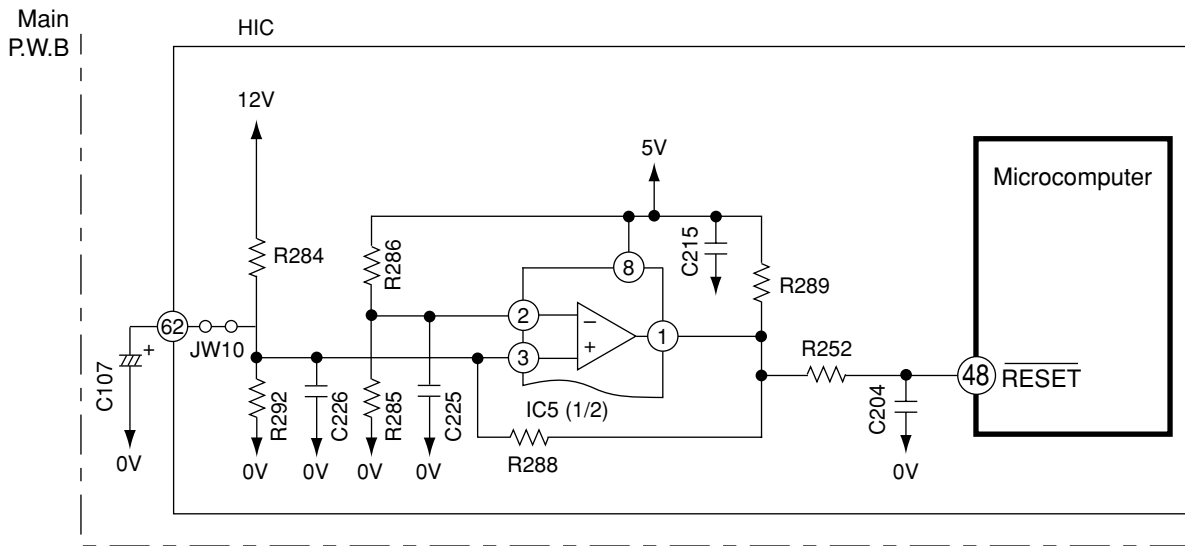
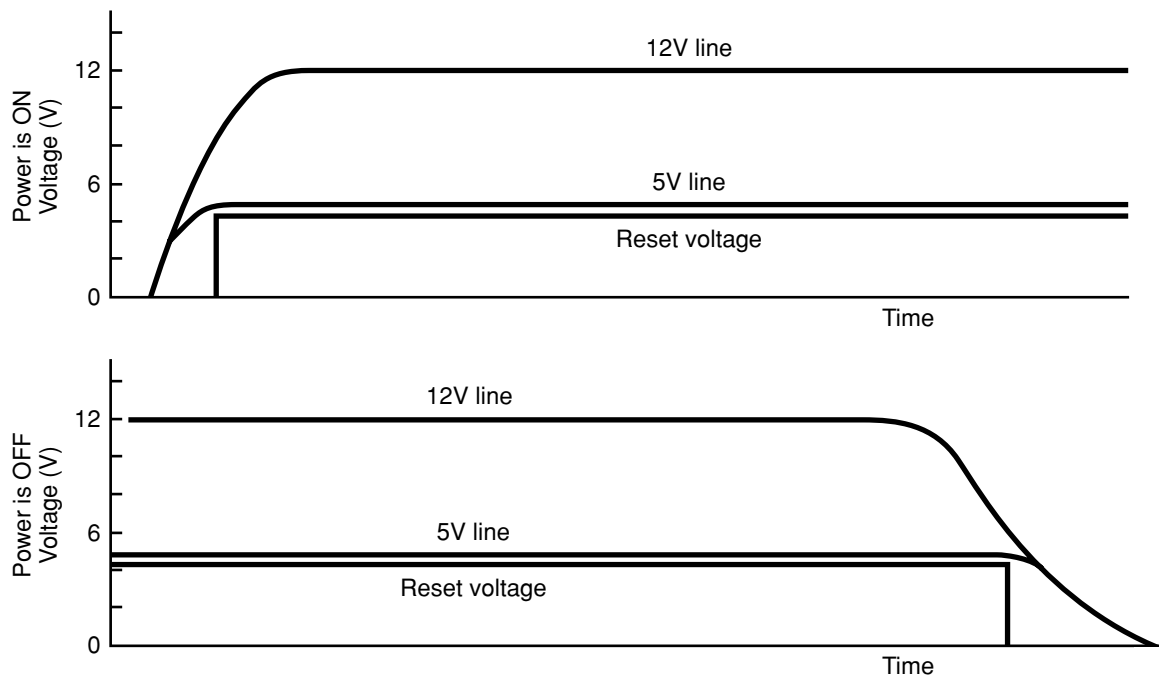

Fig. 10-1
Fig. 10-2
- Low voltage at pin (48) resets the microcomputer, and HI activates the microcomputer.
- Fig. 10-1 shows the reset circuit and Fig. 10-2 shows waveform at each point when power is turned on and off.
- When power is turned on, 12V line and 5V line voltages rise and 12V line voltage reaches 10.9V and reset voltage input to pin (48) of microcomputer is set to Hi.